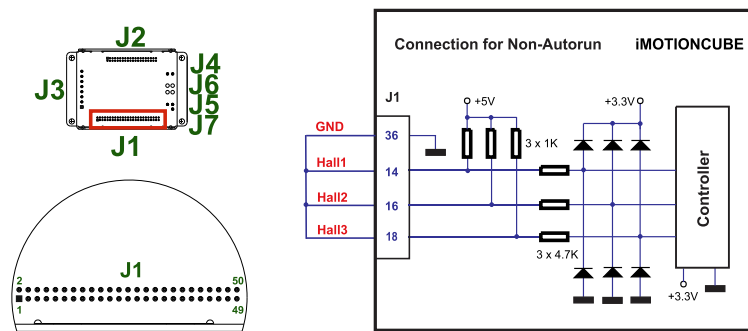

Figure 3.35. Temporary connection during power-on to remove the drive from Autorun mode or disable Setup
- Hardware2 – by temporary connecting all digital Hall inputs to GND, during the power-on for about 1 second, until the green LED is turned on, as shown in *Figure 3.35*. This option is particularly useful when it is not possible to communicate with the drive.
To recover from this behavior, the setup table can be invalidated by connecting all digital Hall inputs to GND, as shown in *Figure 3.35*.